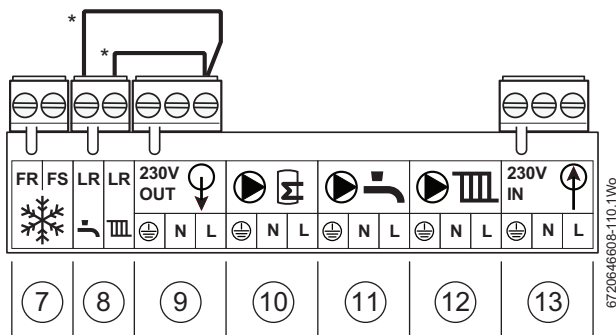

Fig. 44 Mains voltage connectors
Table 23 Key to figure 44
- When connecting Worcester plug-in or EMS intelligent controls, the links (→ items 8 & 9 in figure 44) must be left in the connection points.